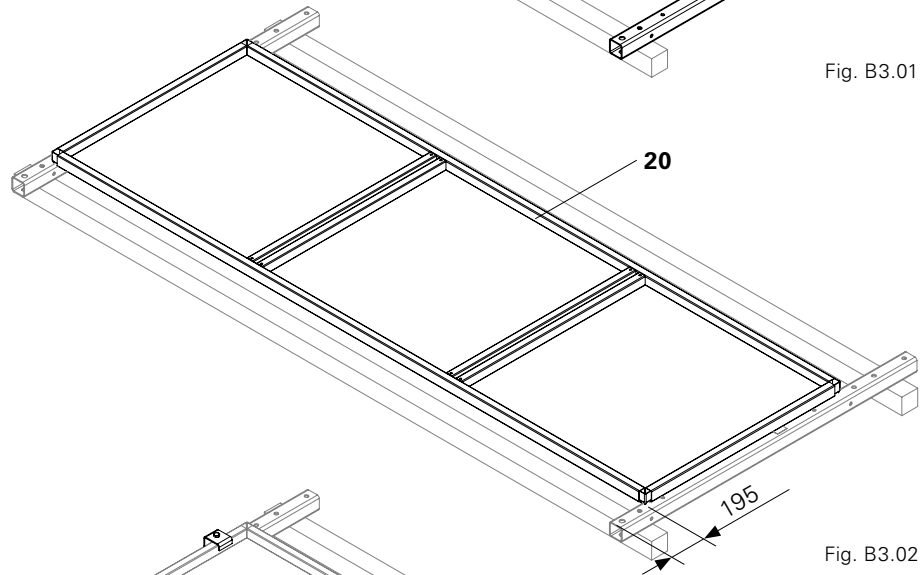

Fig. B3.02
2. Place Telescopic Screen DX LPS 123 x 373 (20) at a distance of 195 mm from the bottom edge on the Guardrail Posts RCS-MP (22). (Fig. B3.02)